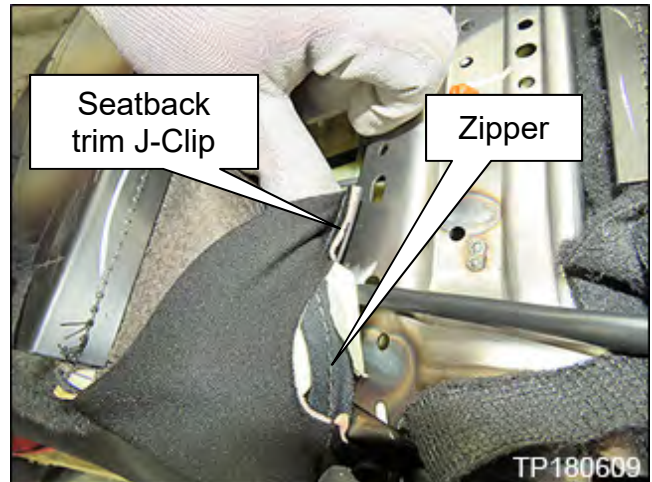

Figure 42
**NOTE:** Seatback trim J-Clips must be installed so that the zipper is underneath as shown in Figure 42.